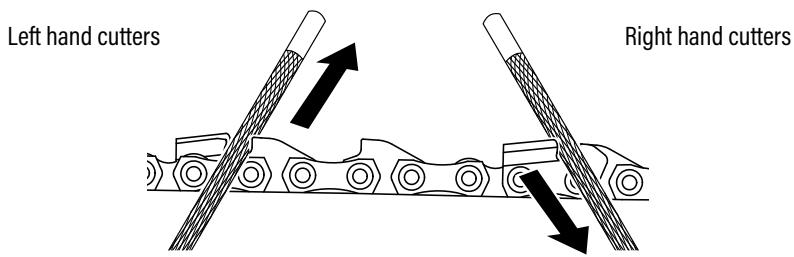

Fig.11
7. Make several firm strokes on each tooth. File all left-hand cutters in one direction, then move to the opposite side to file the right-hand cutters in the reverse direction. Periodically remove filings from the file using a wire brush (Fig. 11).